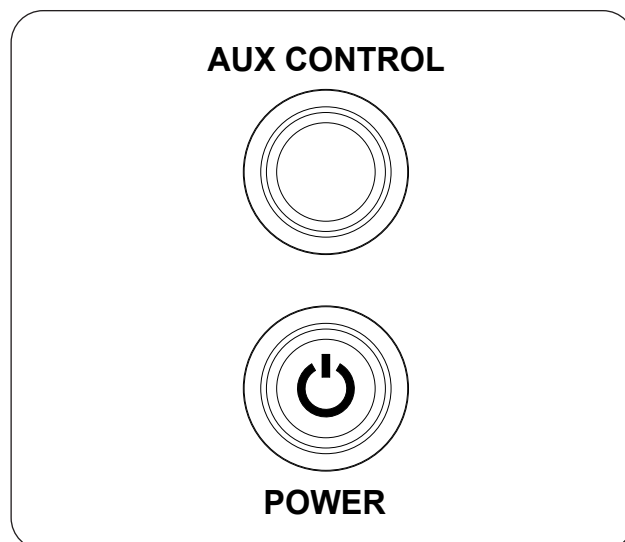

Fig. 46-1 Manual Operation:
1. Locate the control panel on the side of the unit (refer to the IDENTIFICATION PARTS LIST if needed), and identify the **AUX CONTROL** and **POWER** buttons (see Fig. 46-1).
To shut down the burner (system will remain on), push the **AUX CONTROL** button (see Fig. 46-1).
To shut down the burner and system (total shutdown), push the **POWER** button (see Fig. 46-1).